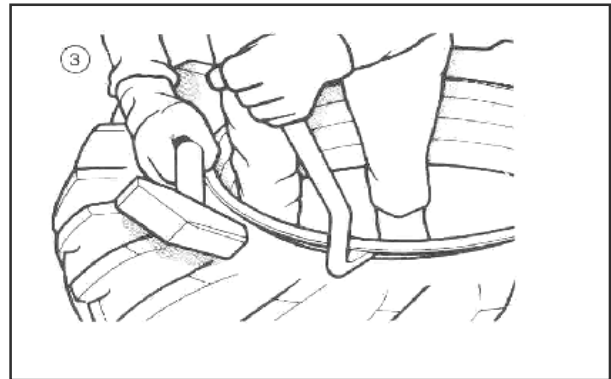

Fig. 3
3. Drive the “Bead-breaking” tool between the tire and rim, taking care not to damage the rim or the tire. (Fig. 3).